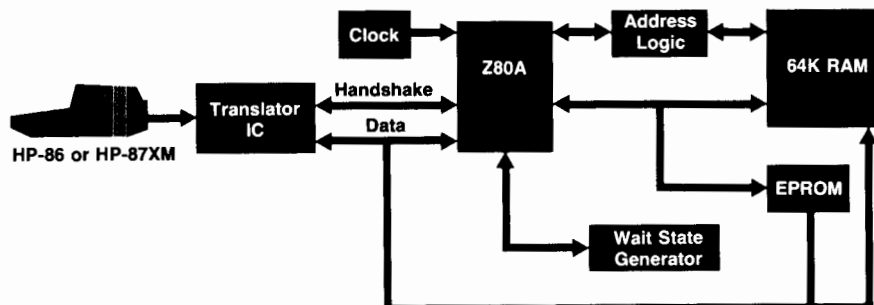

Fig. 3. Block diagram of electronics for the 82900A CP/M System Module.
**Fig. 3.** The HP-87XM Computer is the premier member of the Series 80 family. It features a built-in CRT display and an HP-IB interface for communication with disc drives, printers, and plotters. Its large (128K bytes) internal user memory can be expanded up to 640K bytes by adding RAM modules to its four expansion ports.
The architecture of the system (Fig. 3) is straightforward. The bidirectional data bus allows communications between the CPU, ROM, RAM, and translator chip. The address bus of the Z80A extends to the ROM and is multiplexed onto the RAM. The translator chip resides at two of the I/O addresses of the Z80A. One Z80A port is the translator's address register and the other is the data register. Any I/O instruction turns the ROM off and enables the RAM.